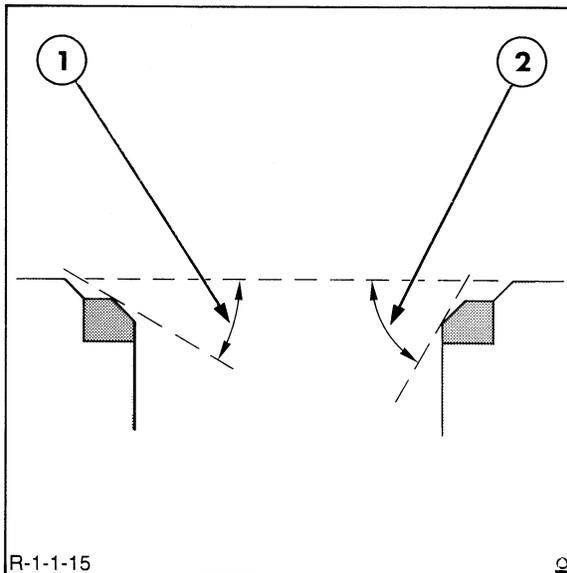

FIGURE 1-16
8. Lower the valve seat by removing stock from the top of the seat with a 30 degree grinding wheel, Figure 1-16. Raise the seat by removing stock from the bottom of the seat with a 60 degree grinding wheel.